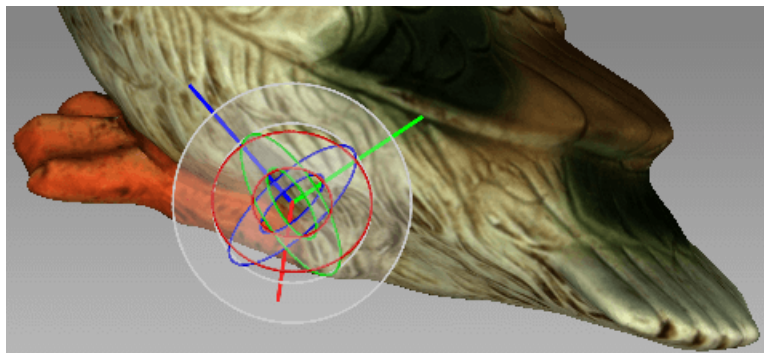

Figure 167: Rotation control
- Drag one of the three circles (see Figure 167) to rotate the object. Hitting the key that corresponds the required axis (X, Y or Z) will hide the controls for the other axes.